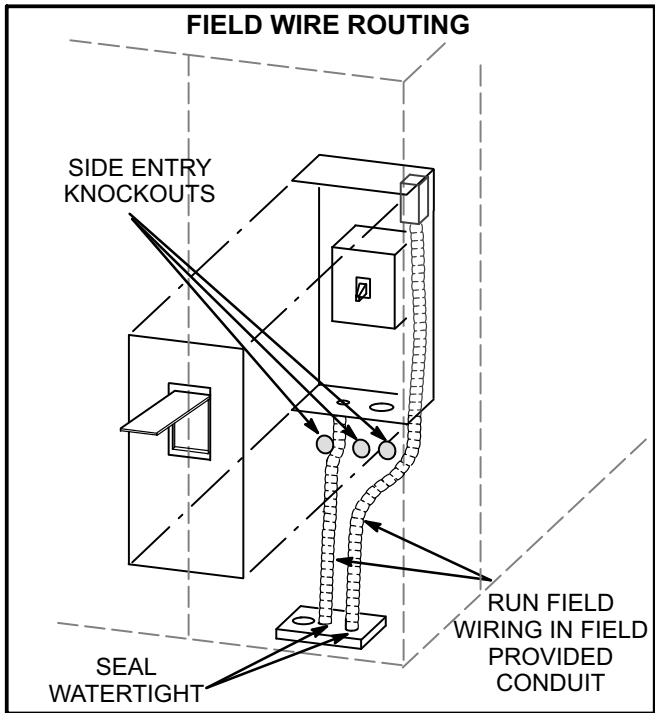

FIGURE 4
- 1- Route main power through field-provided conduit to power entry box. See figure 4. Refer to unit dimensions in unit installation instruction for power entry location. Connect power wiring to L1, L2, and L3 on disconnect or circuit breaker.